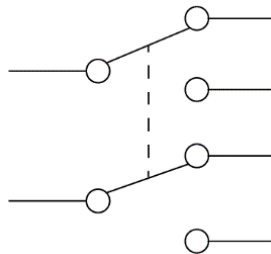

Figure 2.51
11. The symbol in *Figure 2.51* represents _____